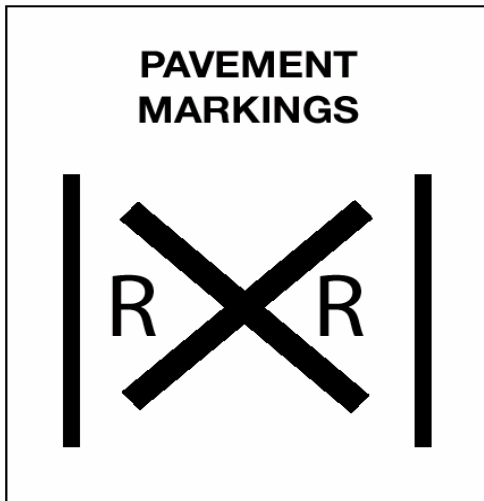

Figure 2.16
**Pavement Markings.** Pavement markings mean the same as the advance warning sign. They consist of an "X" with the letters "RR" and a no-passing marking on two-lane roads. See Figure 2.16.